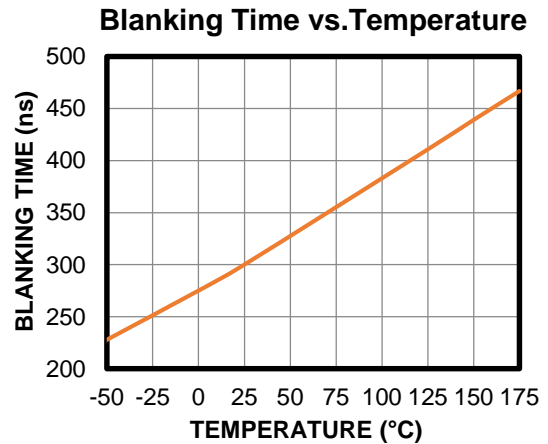

Figure 2: Blanking Time vs. Temperature
The value of the inductor affects the driver's maximum current capability. There is a blanking time in the boost converter, and the inductor current is not detected during the blanking time. The relationship between the blanking time and temperature is shown in Figure 2. To ensure that the inductor current does not exceed 220mA during the blanking time, the inductor value ( $L$ ) should meet the condition estimated with Equation (7):